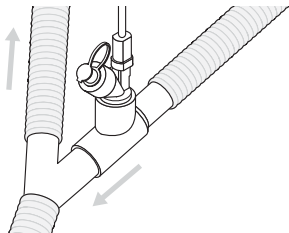

Figure 5. Connecting the Aerogen Solo to a breathing circuit
1. For 22mm **adult breathing circuits** connect the nebulizer with adult T-piece into the inspiratory limb of the breathing circuit before the patient Y (Figure 5).
**Note:** Figure 5 shows adult configuration only